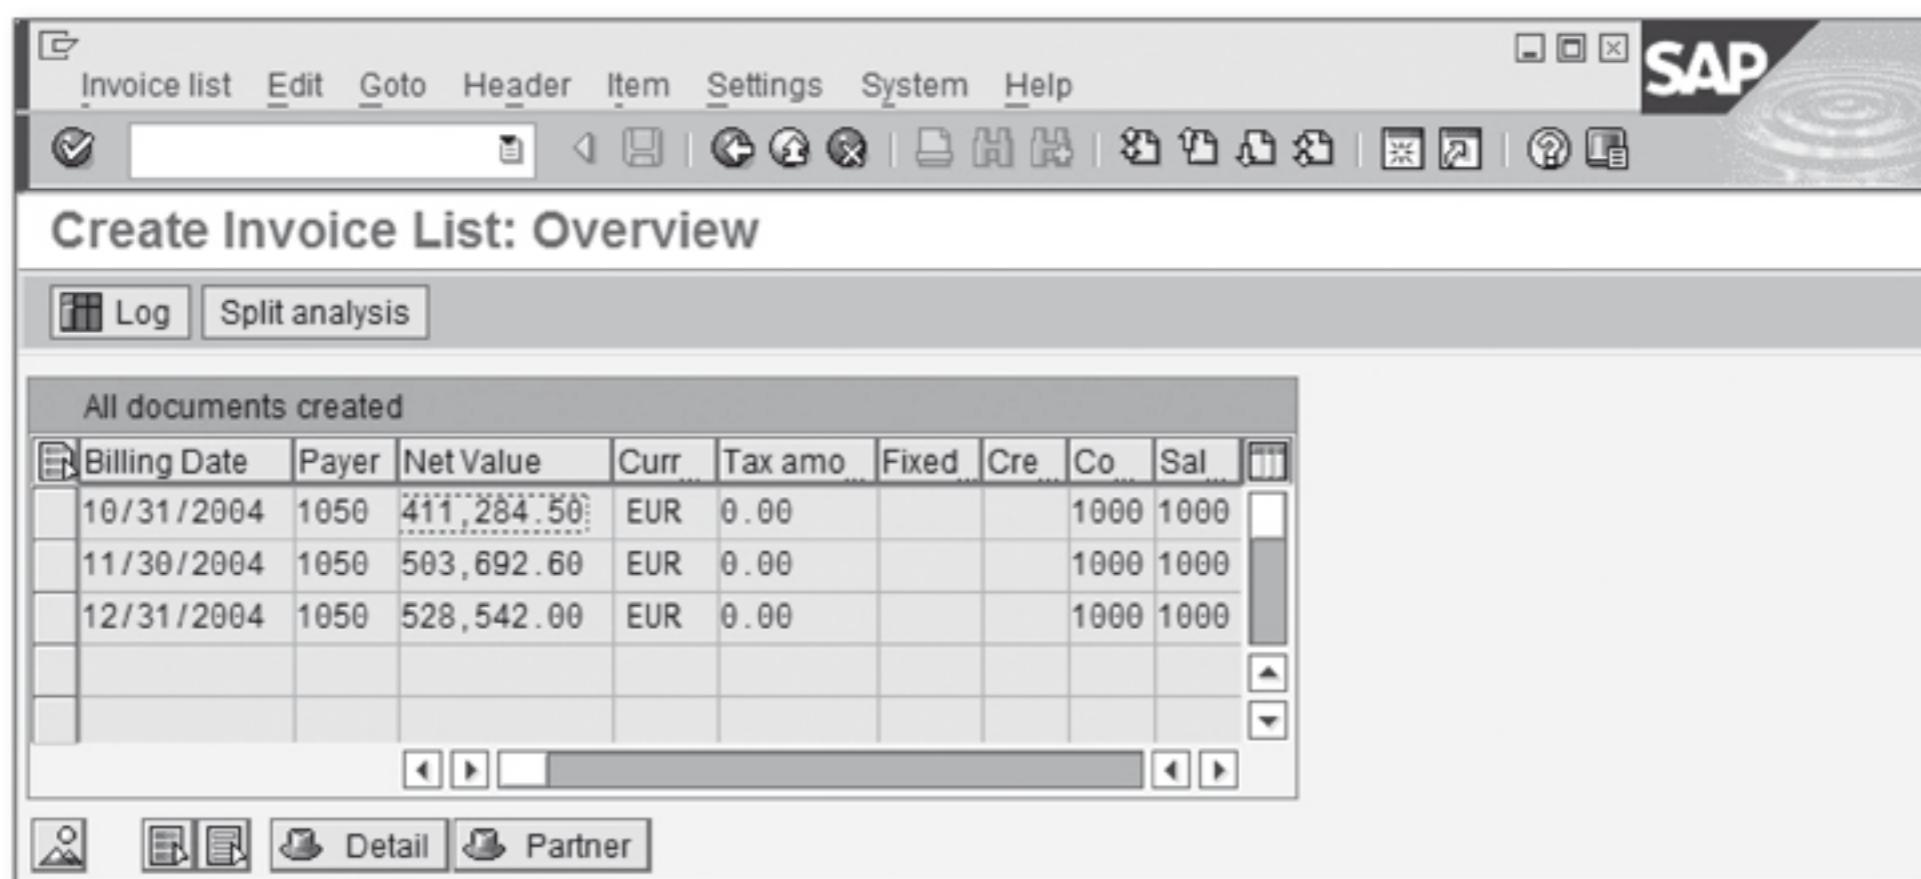

Figure 5.14 Create Invoice List – Simulation Overview
- ▶ **Simulate invoice list creation:** By using the Simulation button or the **Shift + F5** function, you can make sure that the billing documents selected are ready for the invoicing list. If successful, your simulated posting will take you inside the Invoice List Create transaction, where you can review the total amount to be posted on the invoice list (see Figure 5.14). If you get any status messages, as you did during invoice creation, review the error log.